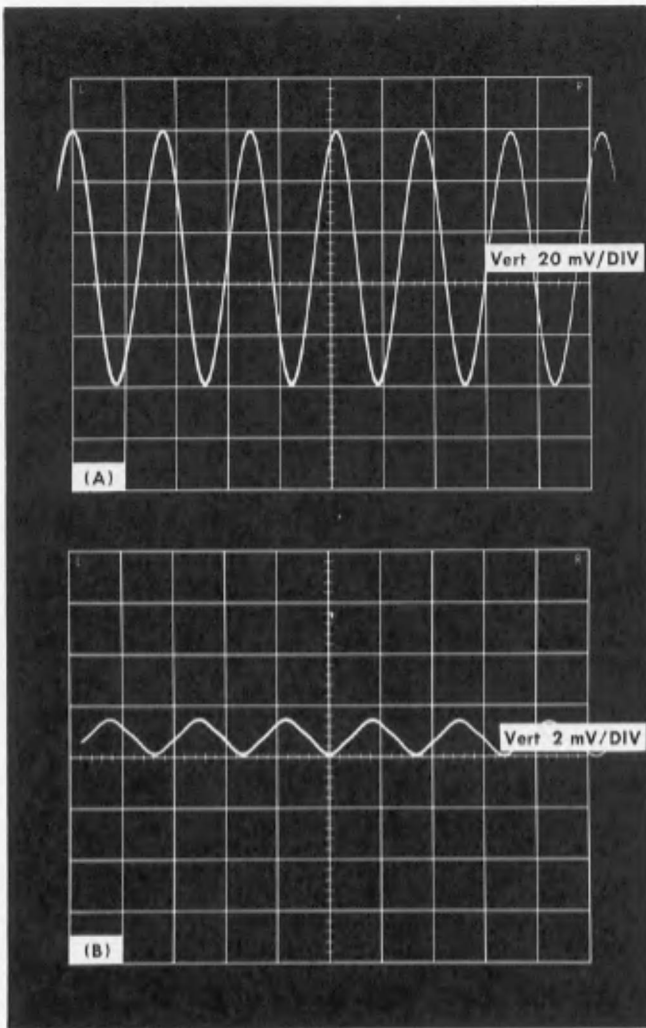

Fig. 6-32. Typical display for step 21. (A) FILTER OUT, (B) FILTER IN.
f. Adjust the Audio Sine Wave Generator Amplitude control for a display of 5 divisions on the Type 561A CRT. See Fig. 6-32.